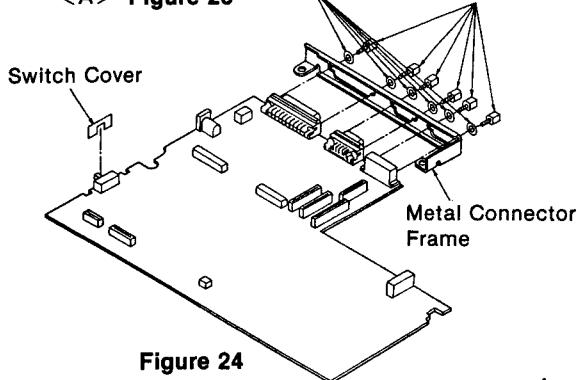

Figure 24
- (4) Lift up the main PCB from the bottom case as shown in Figure 24.
- (5) Remove the switch cover as shown in Figure 24.
- (6) Remove the metal connector frame from the main PCB by loosening six screws and six spring washers <C> shown in Figure 24.